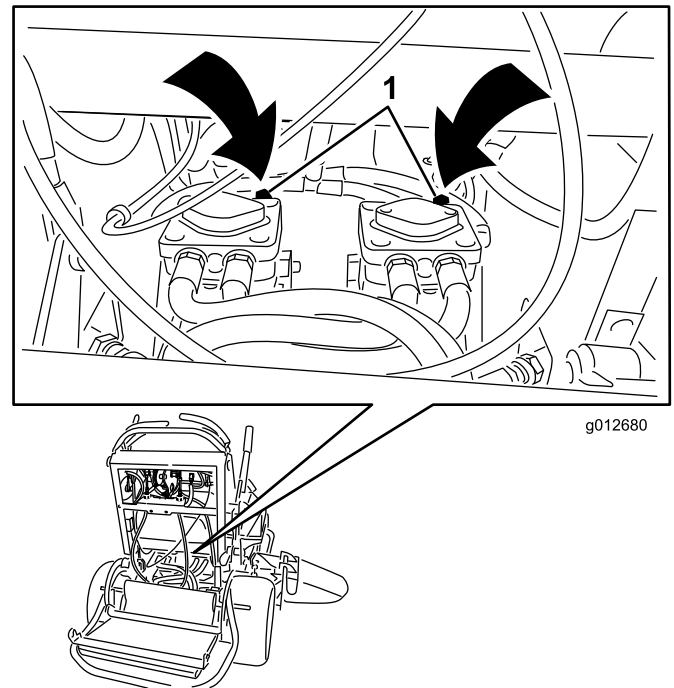

Figure 24
3. Open the bypass valve on both pumps by turning them counterclockwise 1 to 2 turns (Figure 24).